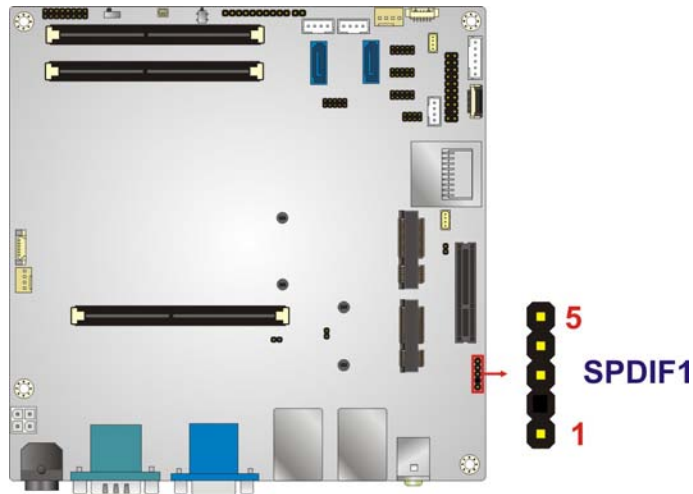

Figure 3-24: S/PDIF Connector Location
- CN Location:See **Figure 3-24**